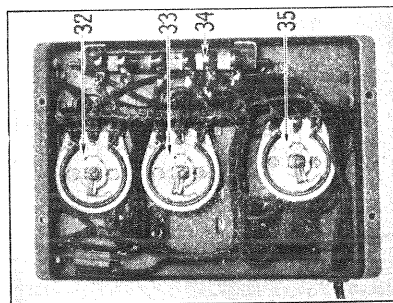

Fig. 6
- Open resistor unit, No. 34, Fig. 6.